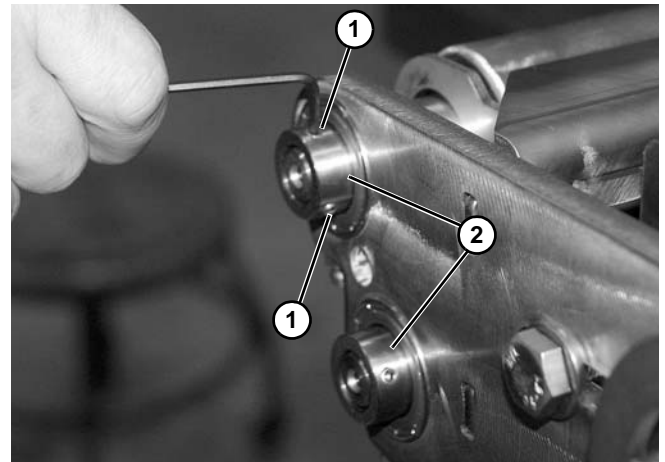

Figure 159
4. Loosen two set screws (**Figure 159, item 1**) on each bearing (**Figure 159, item 2**).